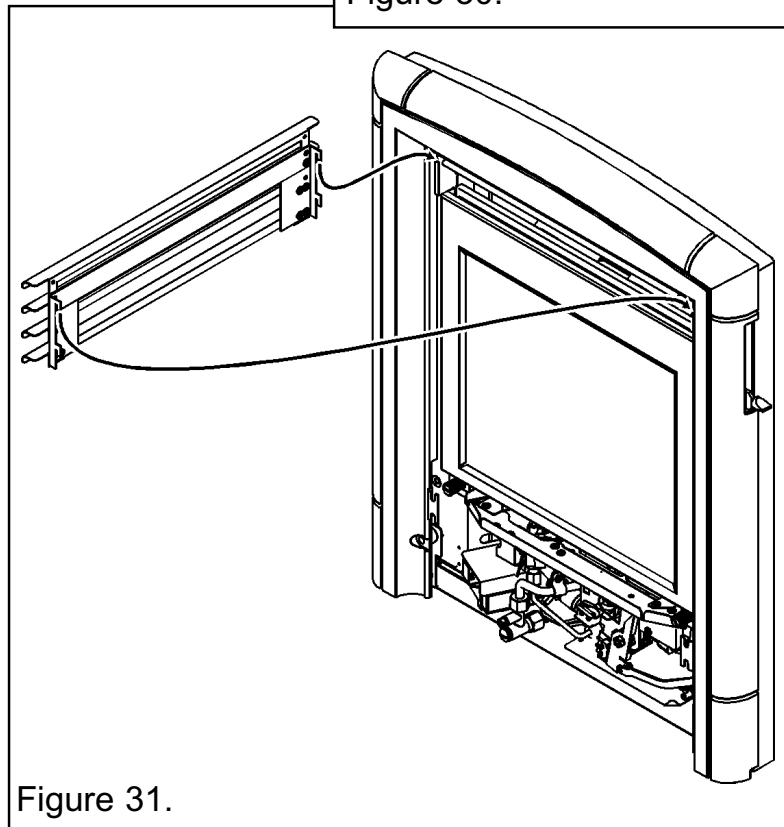

Figure 31.
2. Carefully locate the louvre assembly onto the brackets at the top of the fascia (See figure 31). Be careful not to damage the paint finish on the firefront.